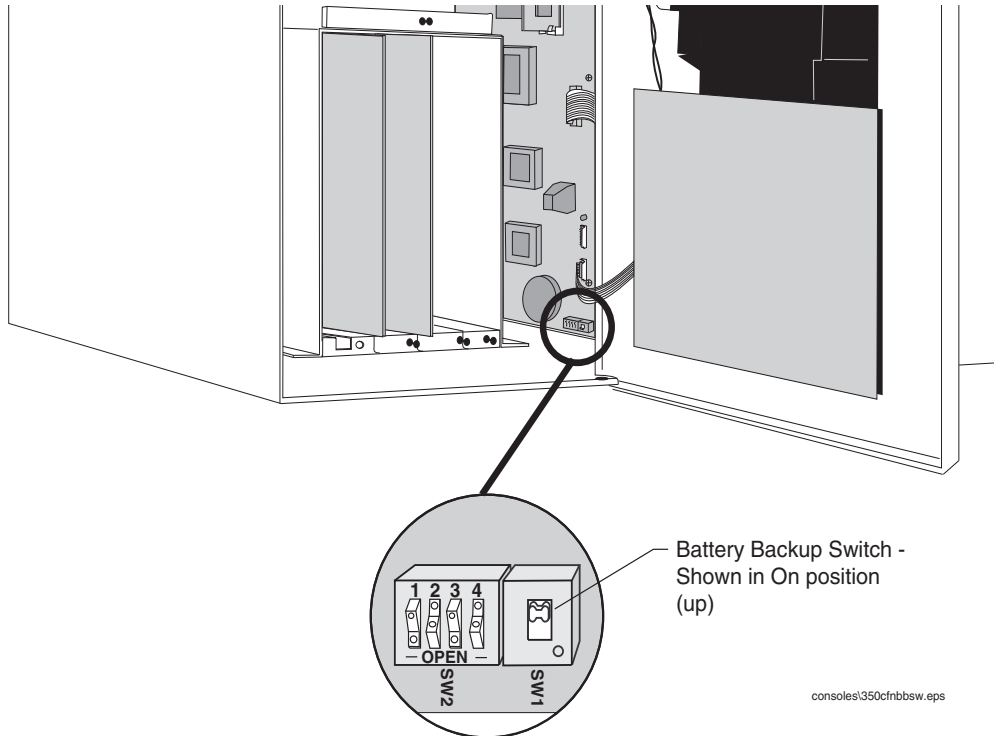

Figure 2. TLS-350 Series Battery Backup Switch Location
3. Verify that the battery backup switch is in the Off position, then turn Off power to the console (see Figure 2) to perform a cold boot of the system.